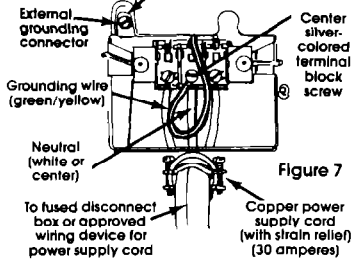

Figure 7
4. Connect the neutral wire of the power supply cord to the center silver-colored terminal of the terminal block and connect the other wires to the outer terminals. See Figure 7. For connecting plain-end field wires see Figure 6.